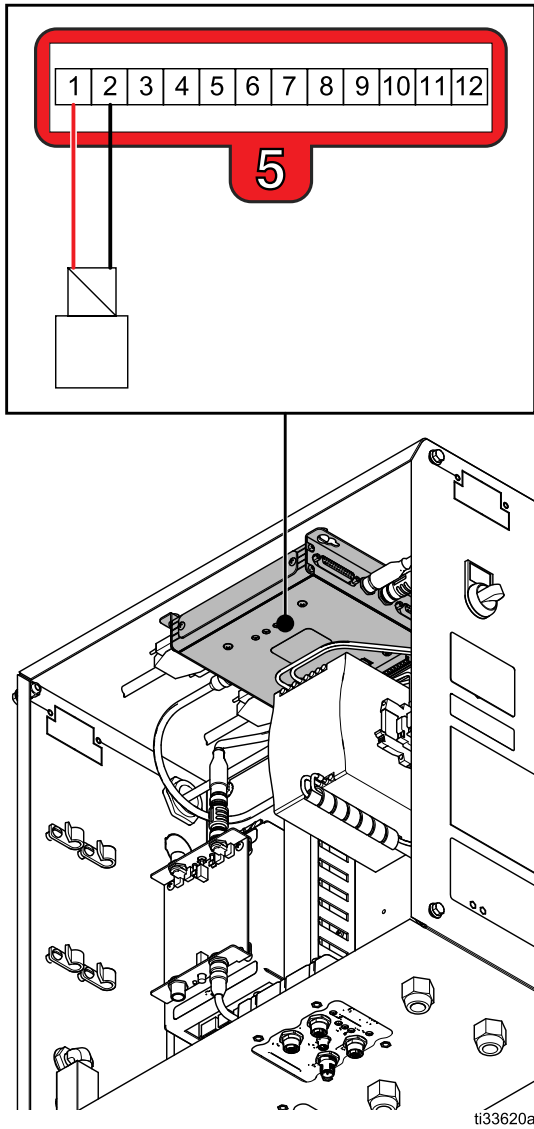

FIG. 20: Wire Solenoid to EFCM
5. Route the GFB solenoid wires through the wire duct. Connect the solenoid wires to pin 1 (red) and pin 2 (black) on connector 5 of the EFCM. See FIG. 20 and the Electrical Schematic (FIG. 21).
6. Connect the solenoid wires to pins 1 and 2 on connector 5 of the EFCM. See FIG. 20 and the Electrical Schematic (FIG. 21).